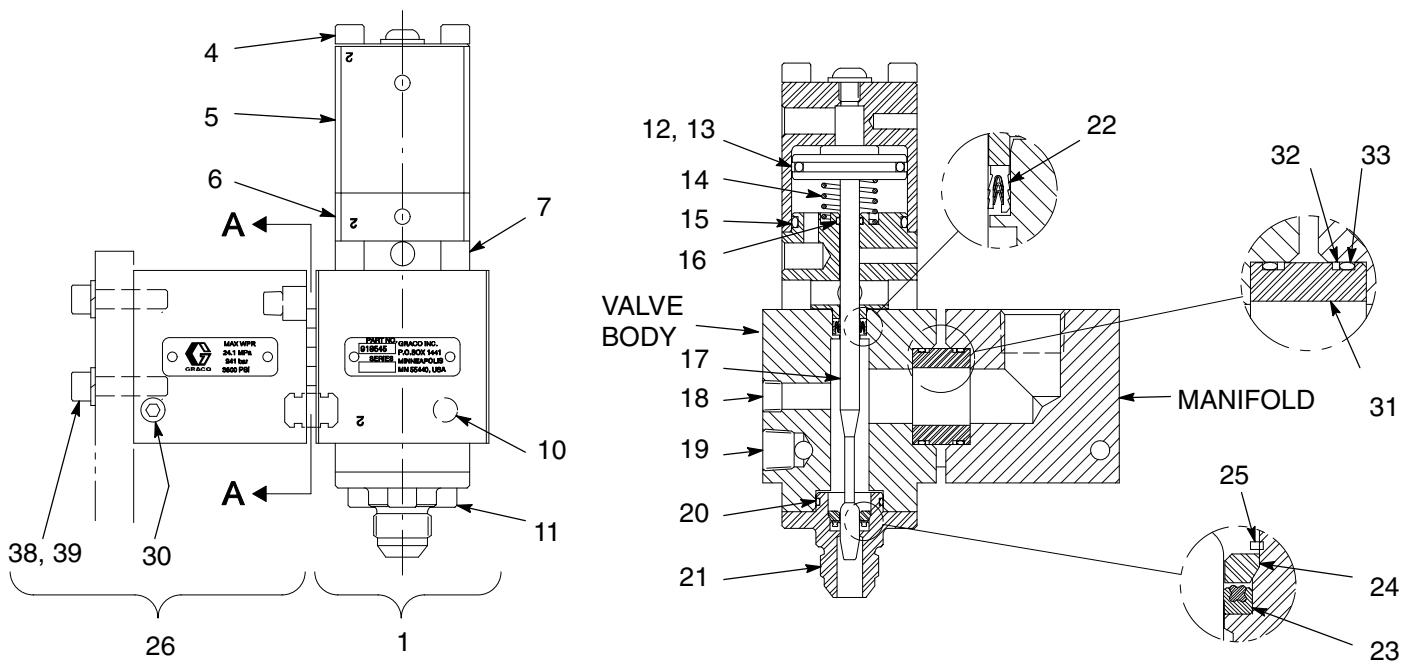

Fig. 12
2. Remove four socket head screws (4) to separate cylinder cap (5) from cylinder base (6). See Fig. 12.
3. Pull cylinder cap (5), cylinder base (6), and spacers (7) from the dispense valve assembly (1). The piston needle (17), o-ring (12), and piston ring (13) may remain with the cap or base when pulled apart.
4. Remove cylinder cap (5) from cylinder base (6).
5. Remove piston (17) and spring (14).
6. Using an o-ring pick, remove seal (22) from valve body.
- a. Remove three socket head screws (11) from valve body and separate nozzle adapter (21) from valve body.
- b. Remove retaining ring (25) from nozzle adapter.
- c. Remove seal (23) and seal support (24) from nozzle adapter.
- d. Remove o-ring (20) from nozzle adapter.